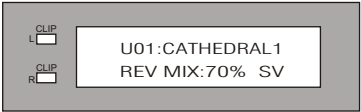

Fig 2.9: SAVE MODE
(7) STORE- Press this button to SAVE editing parameter values. Able to STORE to any User program from U1- U48. If "U01" blink, SV blinks, this indicates user is able to select any user program from U01 ~U48 by Knob (as Fig. 2.9). Press this button again, "STORE" will blink (as Fig. 2.5), go back to USER PROGRAM mode and the previous changes has been SAVED.